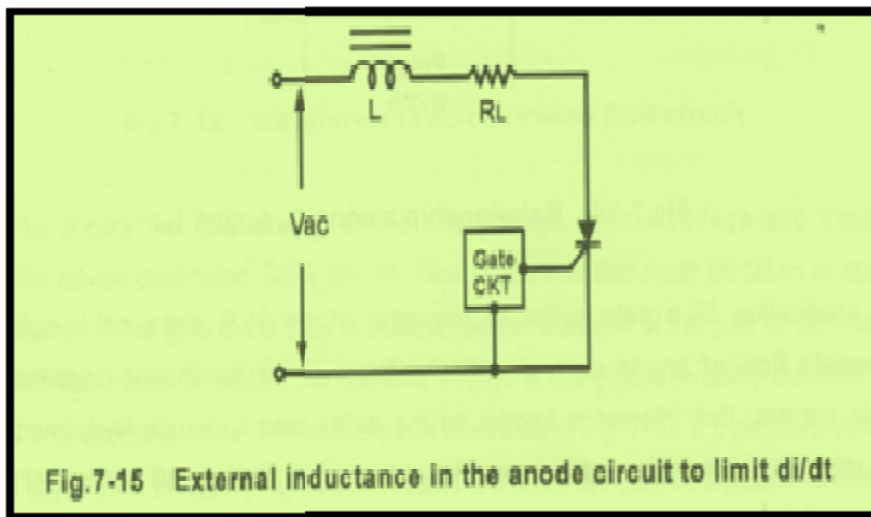

Fig.7-15 External inductance in the anode circuit to limit di/dt
- (1) applying a positive triggering signal to the gate;
- (2) exceeding the anode forward blocking voltage V_{FOM} or V_{ORM} ;
- (3) exceeding the maximum allowable temperature;
- (4) excessive rate of change of anode voltage dv/dt .
The above methods of items (2), (3), and (4) are not used in normal operation since the SCR might be damaged. In either case, the designer must be sure that the current flow in the anode circuit does not increase too rapidly to the SCR might be damaged. The maximum di/dt is usually specified by device manufacturers in amps per microsecond, $A/\mu s$. The inductance inherent in many industrial loads such as motors and transformers tends to limit the rate of change of current in the anode circuit depending on the time constant L/R . If the load is highly resistive, then switching an SCR at high voltages could result in excessive di/dt due to the extremely short rise time of the SCR (typically $1\sim 2\mu s$). In such cases, an inductor is frequently connected in anode circuit to limit di/dt as shown in Fig. 7-15.